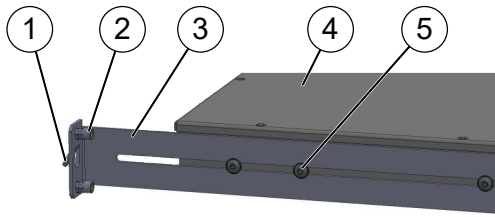

Fig. 23: Assembling the rails
12. ▶ Attach the right and left rails (Fig. 23/3) on the side of the system (Fig. 23/4) using the supplied screws (M4, Fig. 23/5).
13. ▶ Attach the system in the rear area of the cabinet using the hook (Fig. 23/1) on the rails.
17. ▶ Tighten the screws (Fig. 23/5).
18. ▶ Mount the rear rails on the cabinet using the supplied screws (M5). Nuts for doing so are provided in the rails (Fig. 23/2).